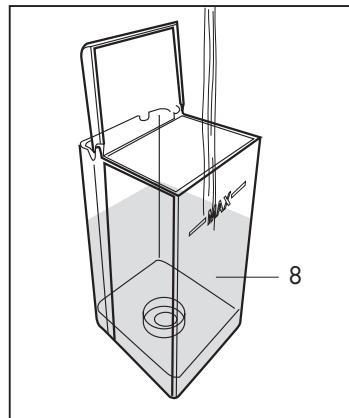

Fig. 2
- Fill the tank with water to maximum level 2.5 litres. (**Fig.2**)